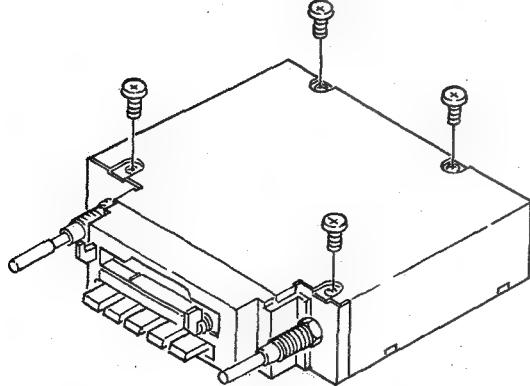

Fig. 5
1. Remove 4 mount screws (3 x 4mm) from upper case (see Fig. 5).